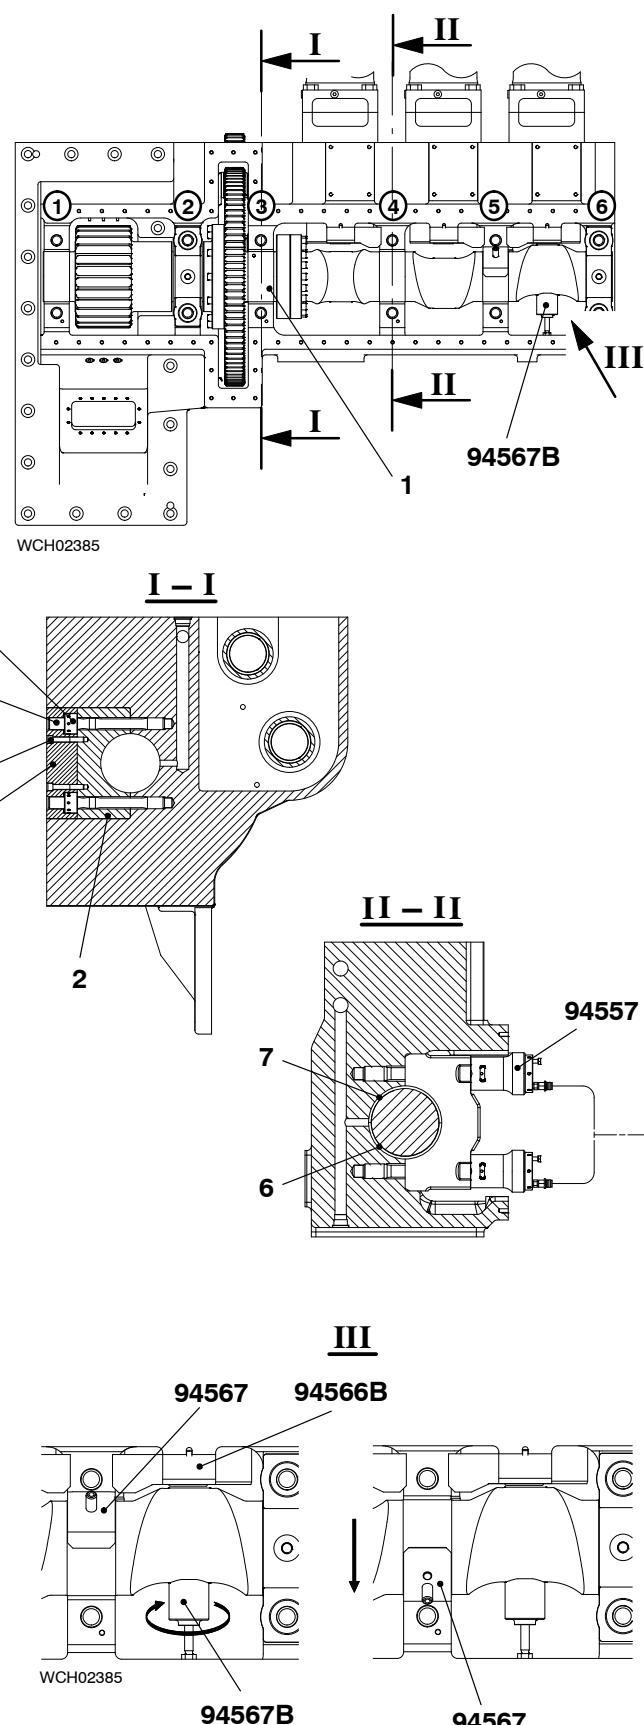
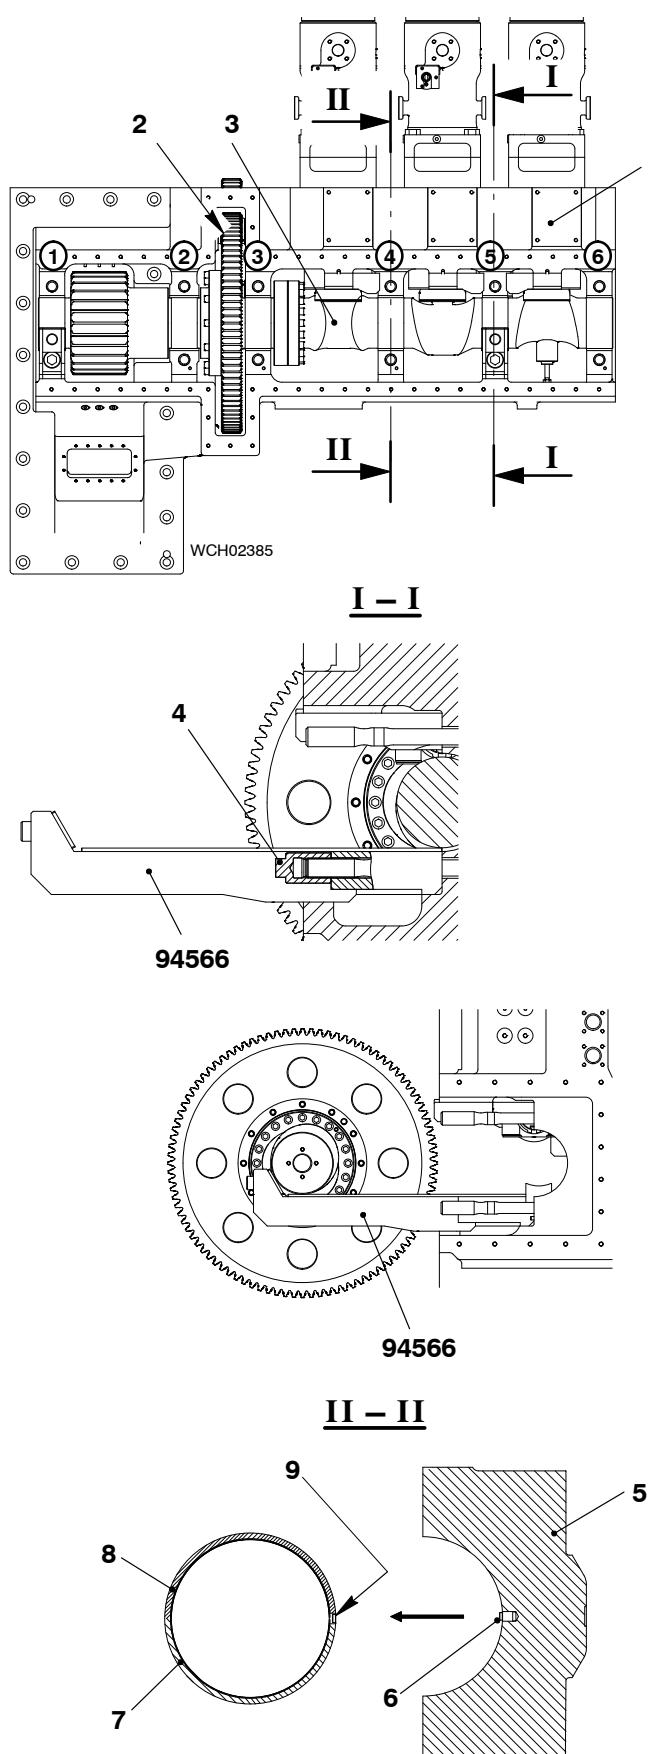
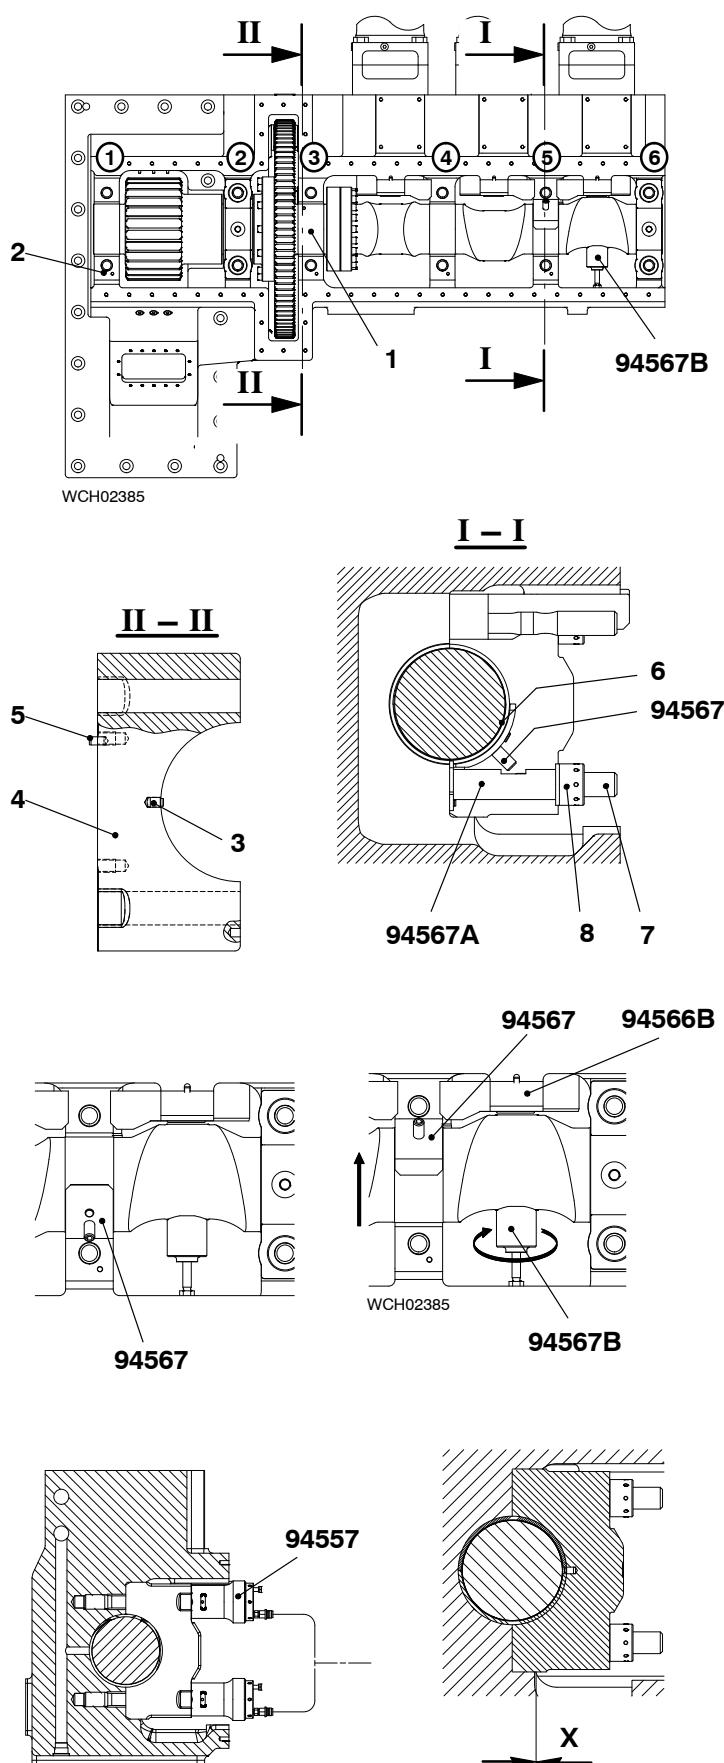

Fig. 3
Fig. 4
Fig. 5
- 1) Loosen the two Allen screws (3, Fig. 3) and remove the filling piece (1) from bearing cover No.3.
- 2) Use the pre-tensioning jacks (94557) to loosen the round nuts (5) of the bearing covers No.1, No.3, No.4 and No.5, refer to 9403-4.
- 3) Remove the round nuts (5) and the bearing covers No.1, No.3, No.4 and No.5.
- 6) Put the tool (94567) in position on the top bearing shell (7) of bearing No.5 (see View III).
- 1) Put the two supports (94566) in the positions at No.1 and No.5 (Fig. 4).
- 2) On the two supports (94566), tighten the nuts (4).
- 5) Remove the screwjack (94567B, Fig. 3).
- 6) Carefully move the camshaft (3, Fig. 4) and the gear wheel (2) on to the two supports (94566).
- 7) Make sure that the camshaft (3) and gear wheel (2) do not move.
- 7) Put the screwjack (94567B, Fig. 5) in position.
- 9) Put the assembly template (94567A) on the bottom elastic bolt (7).
- 10) Put the round nut (8) on the elastic bolt (7). Tighten the round nut with your hand.
- 11) Put the top bearing shell (6) in position on the camshaft.
- 13) Use the assembly template (94567) to turn the bearing shells (7, 8 Fig. 4) 90° upwards.
- 17) Make sure that the pin (3, Fig. 5) is in the bearing cover (4).
- 18) Attach the bearing cover (4).
- 19) Put the round nuts (8) on the elastic bolts (7). Tighten the round nuts with your hand.
- 22) Put the bearing cover (4) that has the dowel pin (5) on to position No. 3.
- 23) Install the tool (94557) on to the elastic bolts (7) (see 9403-4).
- 24) Tighten the round nuts (8) to the value specified in 9403-4.
- 25) Make sure that there is no clearance at (X).